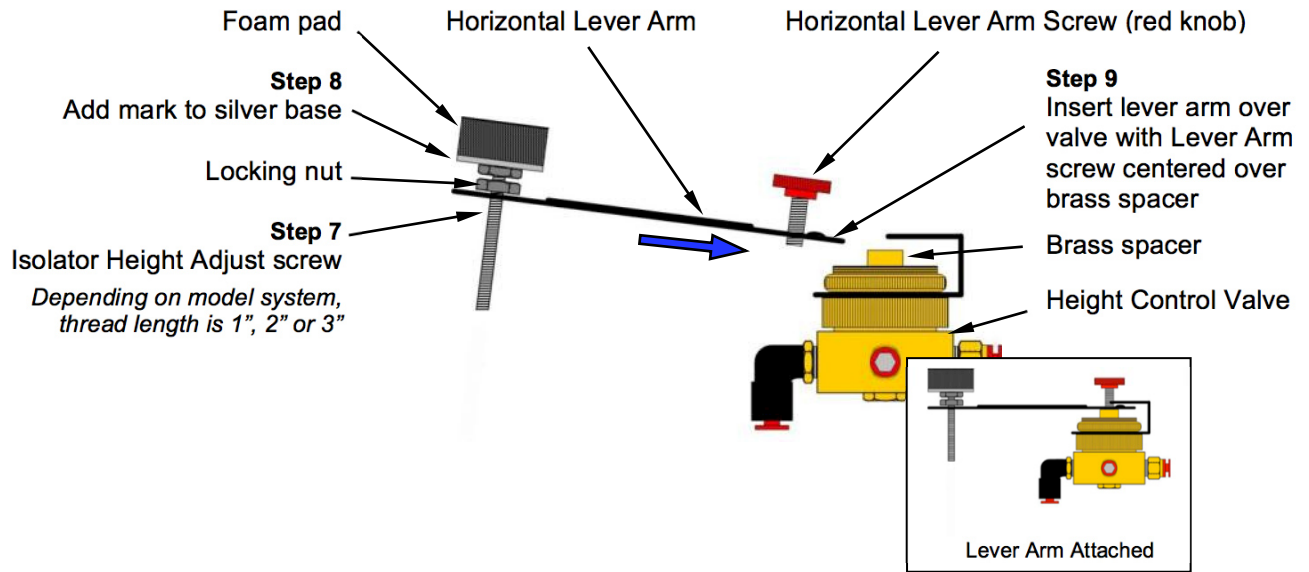

Figure 9, Attaching Horizontal Lever Arm
Step 9 Attach *horizontal lever arm* onto *height control valve* ensuring the end of the **HORIZONTAL LEVER ARM SCREW** fits over the center of the *brass spacer* as shown in figure 9 above.
Step 10 Loosely fasten *horizontal lever arm* with **HORIZONTAL LEVER ARM SCREW** (red knob) and adjust to position lever arm horizontal with valve as shown in figure 9 insert.